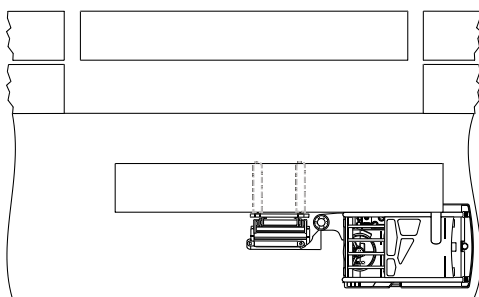

Figure: 4-53 Travel with Long Load
12. \*When you are sure the pallet clears the rack completely, continue pivoting the mast while shifting to the right until the load is parallel to the truck. (See Figure 4-53.)
14. Maneuver forward and backward to straighten the truck within the aisle and continue to your next position. (See Figure 4-53.)